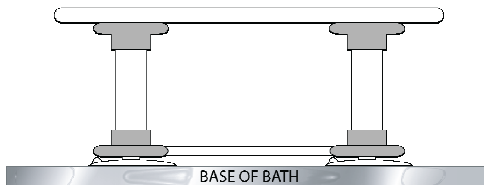

fig. 4
4. Push down firmly on the flaps ensuring that all four flaps make full contact with the base of the bath (see fig. 4)